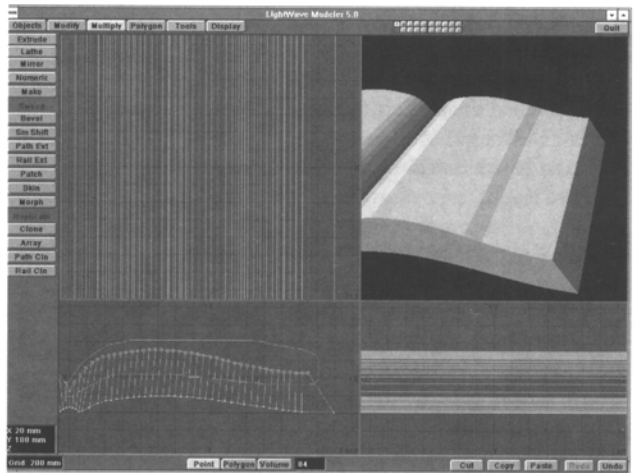

Figure 4
•Using the Point selection tool, Lasso around the right side of the book's top points, as in Figure 4.